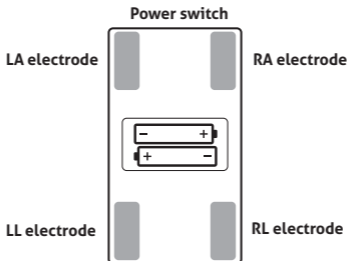

Fig. 24
- Insert two LR03 (AAA) batteries as shown in the drawing. Make sure that the positive (+) and negative (-) poles of inserted batteries correspond to the poles marked under the battery cover, as shown in Fig. 24.